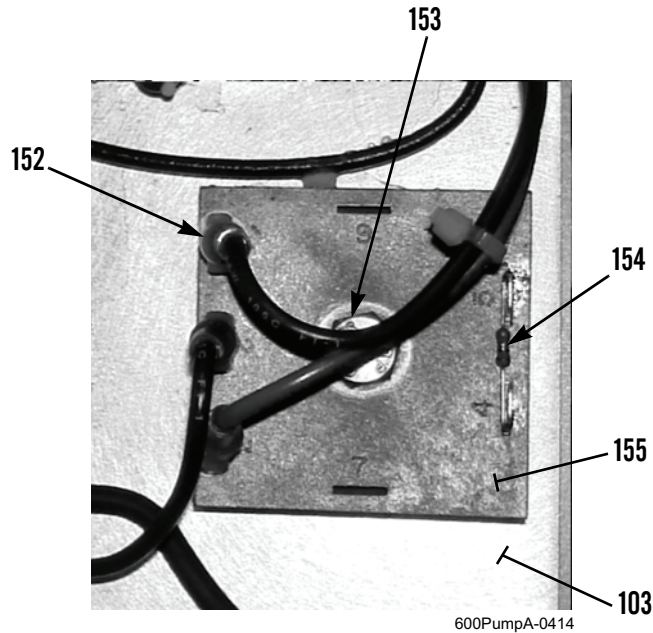

Figure 39. Preheat Timer.
1. Remove three wires (Figure 39, Item 152) from preheat timer (Figure 39, Item 155).
2. Remove diode (Figure 39, Item 154) from terminals 4 and 5.
3. Remove bolt (Figure 39, Item 153) and preheat timer (Figure 39, Item 155) from inside circuit board panel (Figure 39, Item 103).
1. Install preheat timer (Figure 39, Item 155) on inside circuit board panel (Figure 39, Item 103) with bolt (Figure 39, Item 153).
2. Install diode (Figure 39, Item 154) on terminals 4 and 5.
3. Install three wires (Figure 39, Item 152) on preheat timer (Figure 39, Item 155).